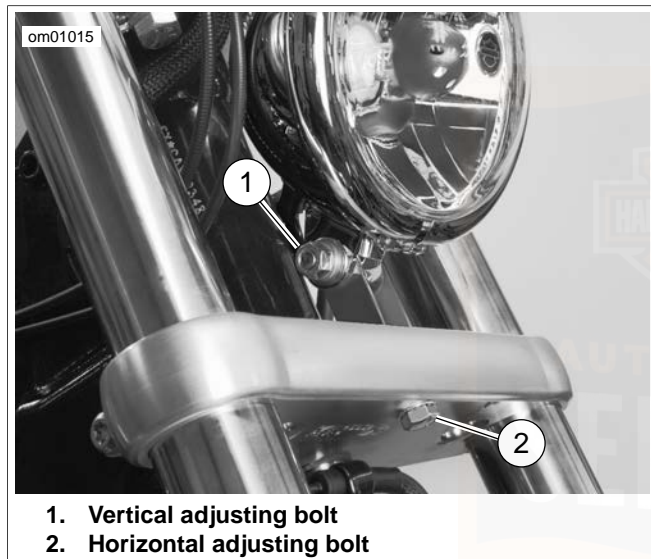

Figure 39. Headlamp Adjustment
1. See Figure 39. Loosen horizontal adjusting bolt (2) to adjust headlamp beam side to side. Tighten bolt to 25-30 ft-lbs (33.9-40.7 Nm).
2. Loosen nut on vertical adjusting bolt (1) to adjust headlamp beam up or down. Tighten bolt to 25-30 ft-lbs (33.9-40.7 Nm).